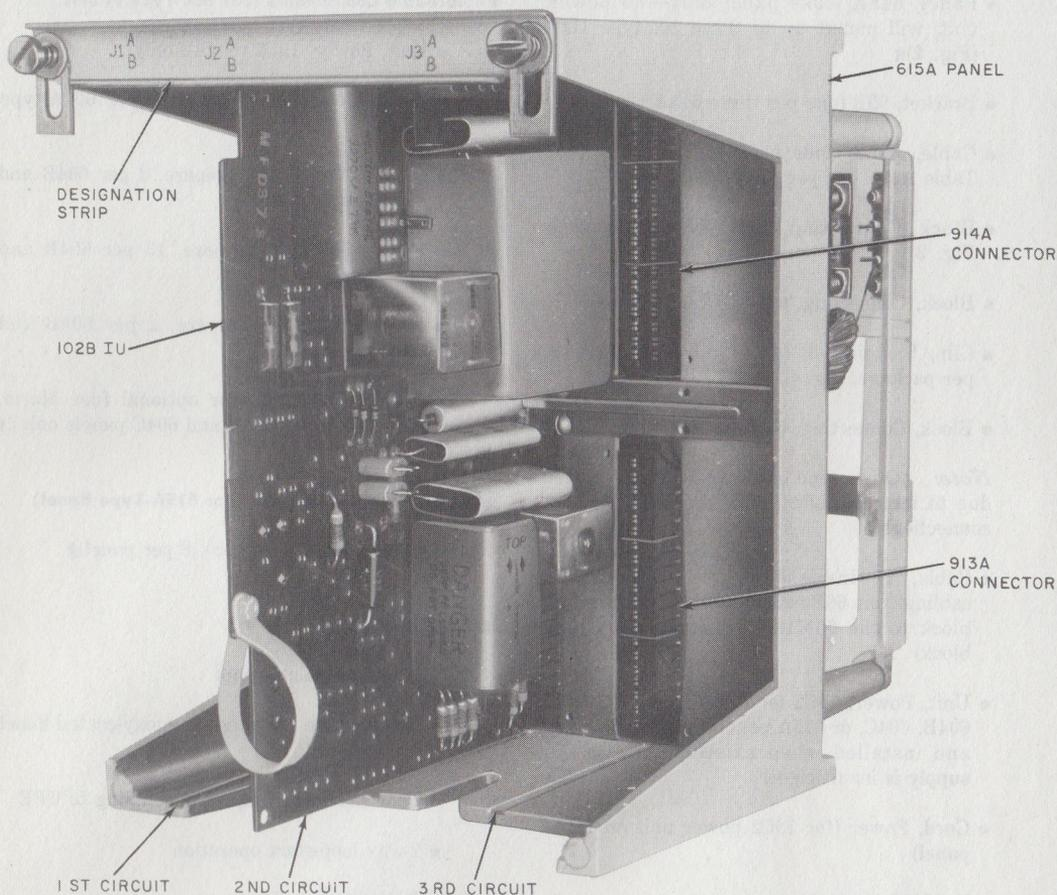

Fig. 2—102B Interconnecting Unit Mounted in 615A Panel
- Panel, 615A (fuse panel only—no power unit; will mount up to three 102-type IUs) (Fig. 2)◆
615A Panel (Fig. 2 and 11 and Tables G, J, K, and L)